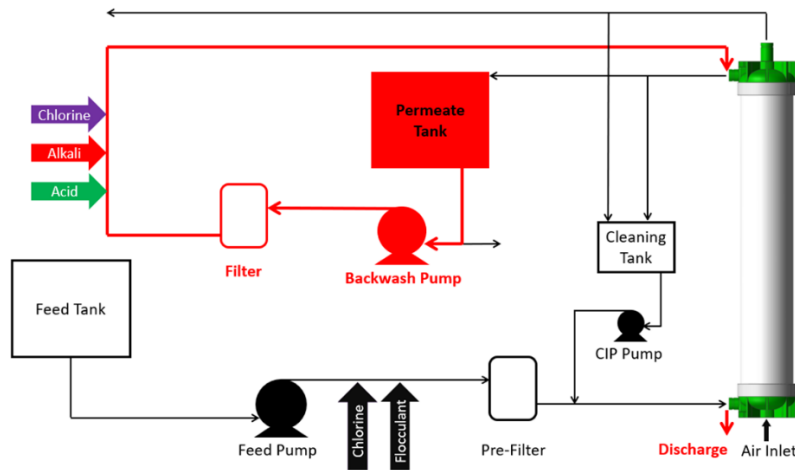

Figure 13. Introduction of chemicals to the system during CEB step (Bottom)
3. Chemical dosing during backwash (top and/or bottom backwash) (Figure 13/14)